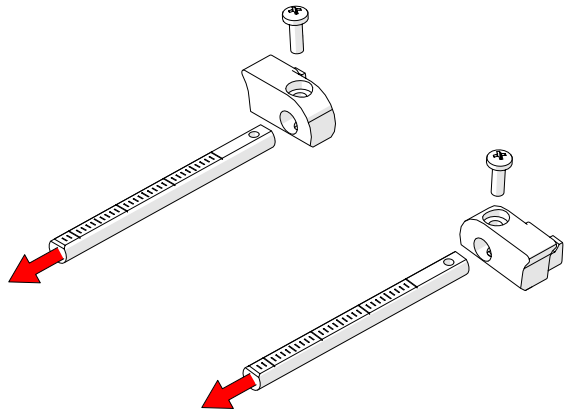

Fig. 86 - Remove crossbars from crossbar clamp bracket
8. When the crossbar clamp bracket screws are removed, slide the crossbars from the crossbar clamp bracket (Fig. 86).